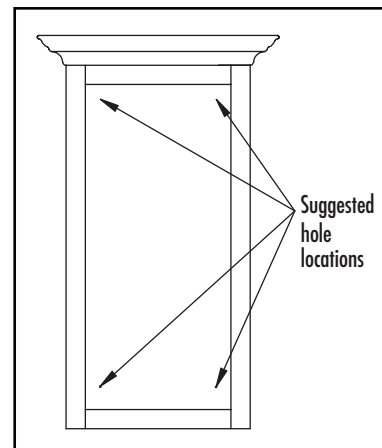

Figure 27
- Place the cabinet into place, and using a #8 x 2" wood screw, secure the cabinet to the wall (Figure 27).